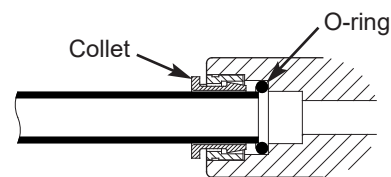

FIG. 14
- NOTE:** A common mistake is to stop pushing the tube when it hits the internal metal collar or o-ring (See Fig. 14). Make sure to push past these, until at least 5/8" (16 mm) of tube is inserted.